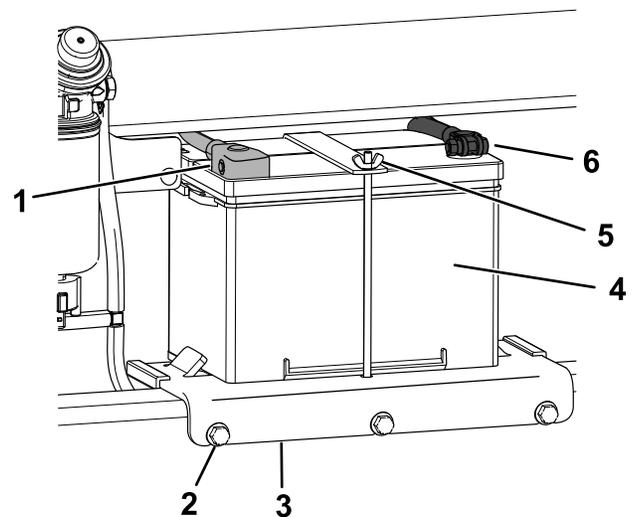

Figure 63
4. Disconnect the negative (black) ground cable from the battery post (Figure 63). Retain the fasteners.
6. Disconnect the positive (red) cable from the battery post (Figure 63). Retain the fasteners.
- Loosen the 3 bolts securing the battery tray and remove the tray with the battery (Figure 63).
- Place the battery on the battery tray and secure it with the wing nut and rod (Figure 63).
- Install the battery tray to the machine and secure with the 3 bolts (Figure 63). Torque the bolts to 41 N·m (30 ft-lb).
- Using the fasteners previously removed, install the positive (red) battery cable to the positive (+) battery terminal (Figure 63).
- Using the fasteners previously removed, install the negative (black) battery cable to the negative (-) battery terminal (Figure 63).